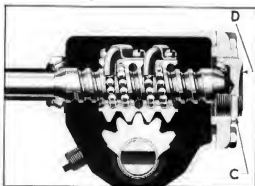

Fig. 4—Worm Gear Adjustment
5. To adjust the worm bearings, loosen lock nut "C" (Fig. 4) and turn worm bearing thrust screw "D" until there is no perceptible end play in worm. Check pull at wheel rim as outlined above, readjusting, if necessary, to obtain proper pull. Tighten lock nut "C" and recheck pull, as it must lie between the limits specified after the lock nut is tightened.
- Loosen lock nut "B" (Fig. 2) and turn lash adjuster "A" a few turns in counterclockwise direction. Next loosen lock nut "C" (Fig. 4) and turn worm bearing thrust screw "D" a few turns in a counterclockwise direction.